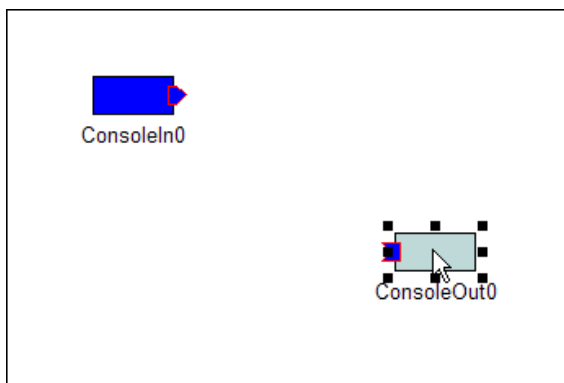

Fig. 4.6: Moving an RT-Component
**Moving components** The selected component can be moved by dragging the mouse while pressing the left button (Figure 4.6). If several components are selected, start dragging the mouse from above one of the selected components. All the selected components will then move simultaneously.